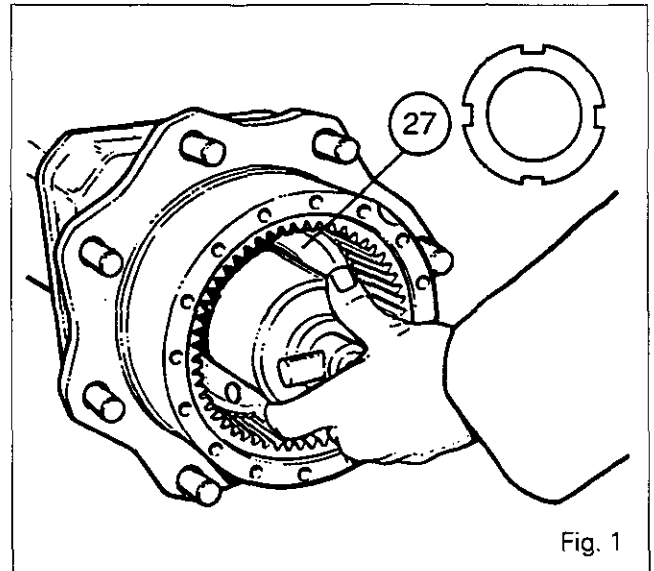
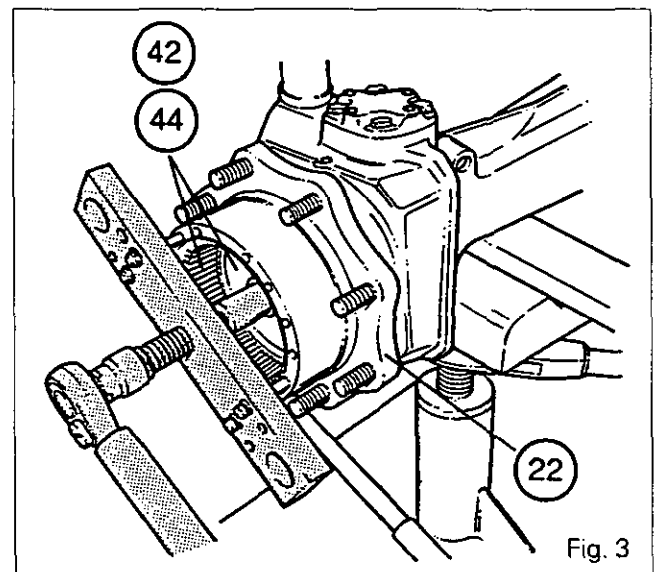

Fig. 1
Fig. 3
2. With the 4WD clutch engaged and the tractor stationary, lift both front wheels so that the hub (22) turns freely. Install stands.
5. Remove the bolts (33).
6. Remove and detach the planetary carrier with the thrust washer (30).
7. Remove the circlip (29) and the sun gear (28).
8. To avoid damaging the swivel housing (47) thread, it is recommended to unlock and unscrew the nut (27) using the socket 3376 880 M1 (front axles AG 85, AG 105) or 3378 028 M1 (front axle AG 125) (Fig.1). Sling the hub (22). Pull out the hub and the ring gear carrier (42) then the ring gear (44) using the puller 3378 038 M1 (Fig.3) and the sleeve used for this type of front axle (refer to section I).
31. Remove the circlip (29) and the sun gear (28).
32. To avoid damaging the swivel housing (47) thread, it is recommended to unlock and unscrew the nut (27) using the socket 3376 880 M1 for front axles AG 85, AG 105 and socket 3378 028 M1 for front axle AG 125 (Fig.1).
33. Sling the wheel hub (22). Remove the hub and the ring gear carrier (42) then the ring gear (44) using puller 3378 038 M1 (Fig.3) and the sleeve used for this type of front axle (refer to section I).